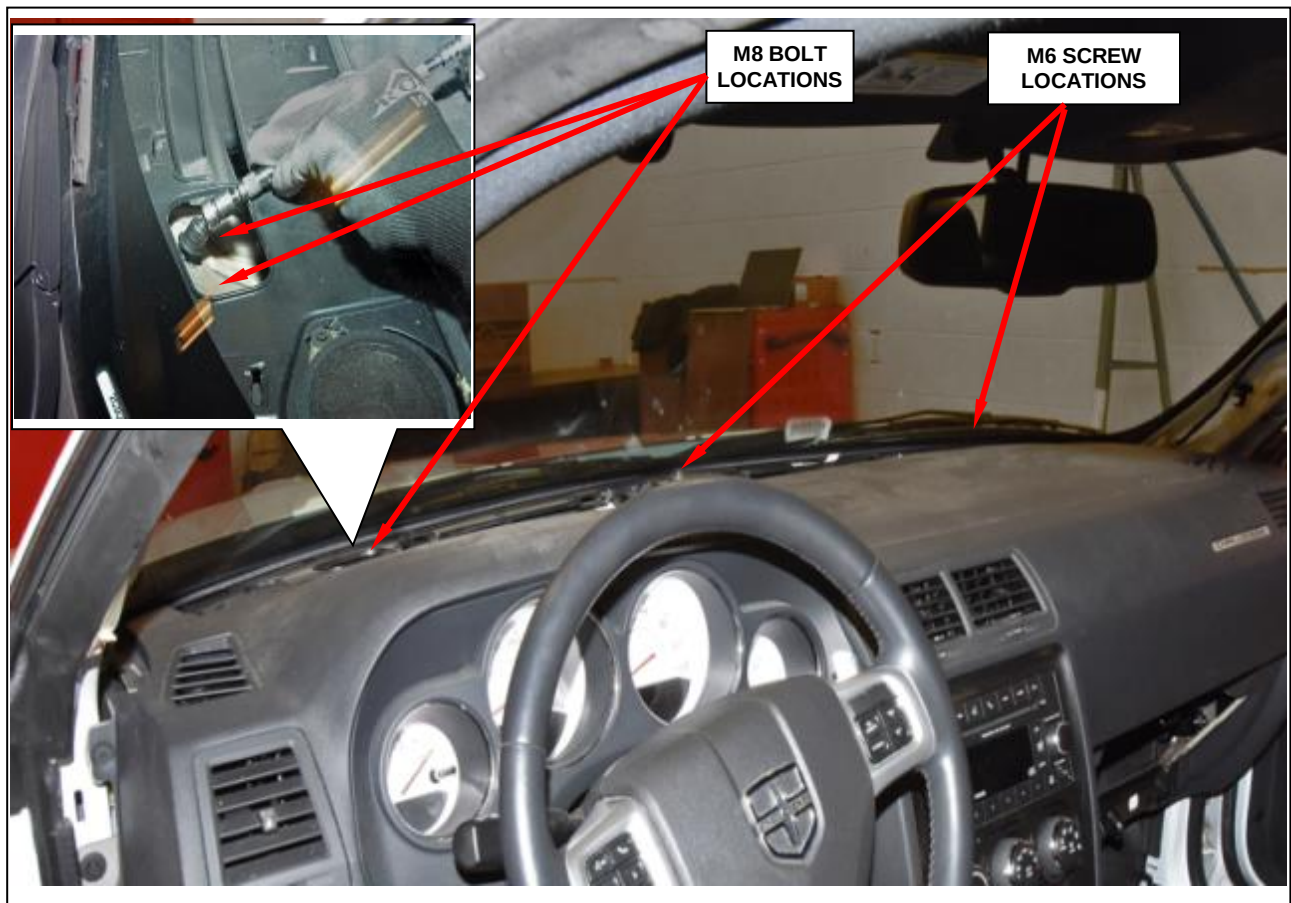

Figure 91 – Top Instrument Panel Fasteners
33. Remove the defroster grille to access the instrument panel top retaining bolts then remove and save the two M8 bolts and two M6 screws (Figure 91).